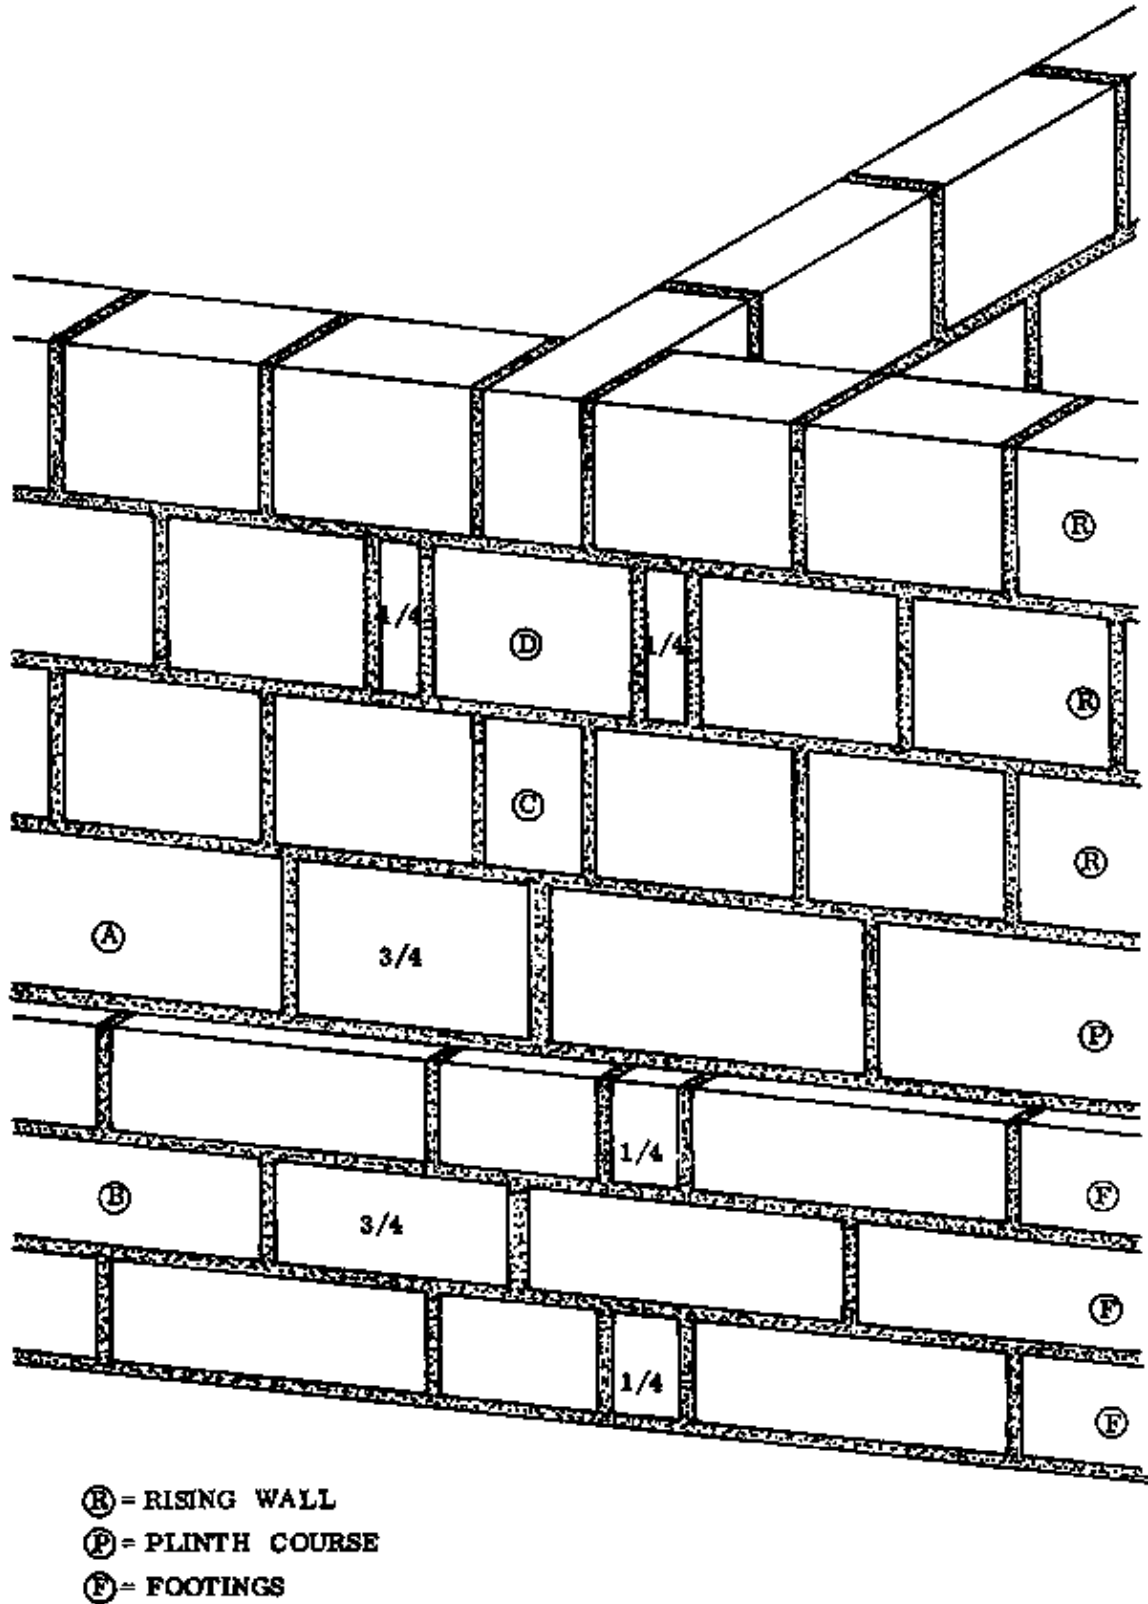

Fig. 1
The first block of the rising wall is placed so that it extends past the header below by 12 cm on one side (Fig. 2, block A). Don't forget to set this block back from the face of the footings by 4 cm. This block is followed by full blocks on either side (Fig. 2, blocks B). The inside wall starts with a $1/4$ block (Fig. 1, block C), this too is followed by full blocks.
– PLINTH COURSE: Except that the blocks are laid edgewise rather than flat, the plinth course is simply a repetition of the footing course two courses below (Fig. 1, blocks A & B).
The first block of the landcrete wall is the one which is shared by the inside and outside walls and covers two cross joints (Fig. 1, block C). It is followed in all three directions by full blocks.